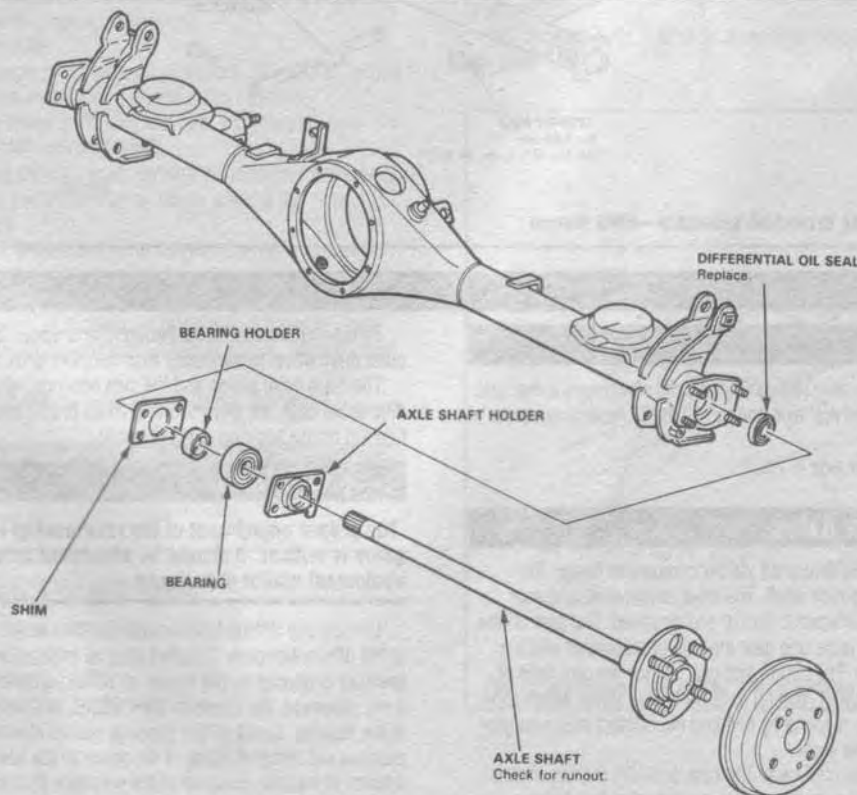

Fig. 59 Rear axle assembly—1984-87 4WD Wagon
▶ See Figures 59, 60, 61 and 62